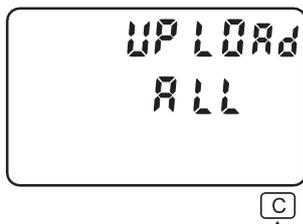

Fig. 20
- Press C button to go to the UPLOAD ALL mode as shown in Fig.20. Pressing A button will print all memories recorded to the printer (if printer is connected) or upload all memories to the computer (if the optional upload cable is connected and software is installed). When the stopwatch is in the process of uploading, an indicator moves from right to left and when the uploading is completed UPLOAD END is displayed.